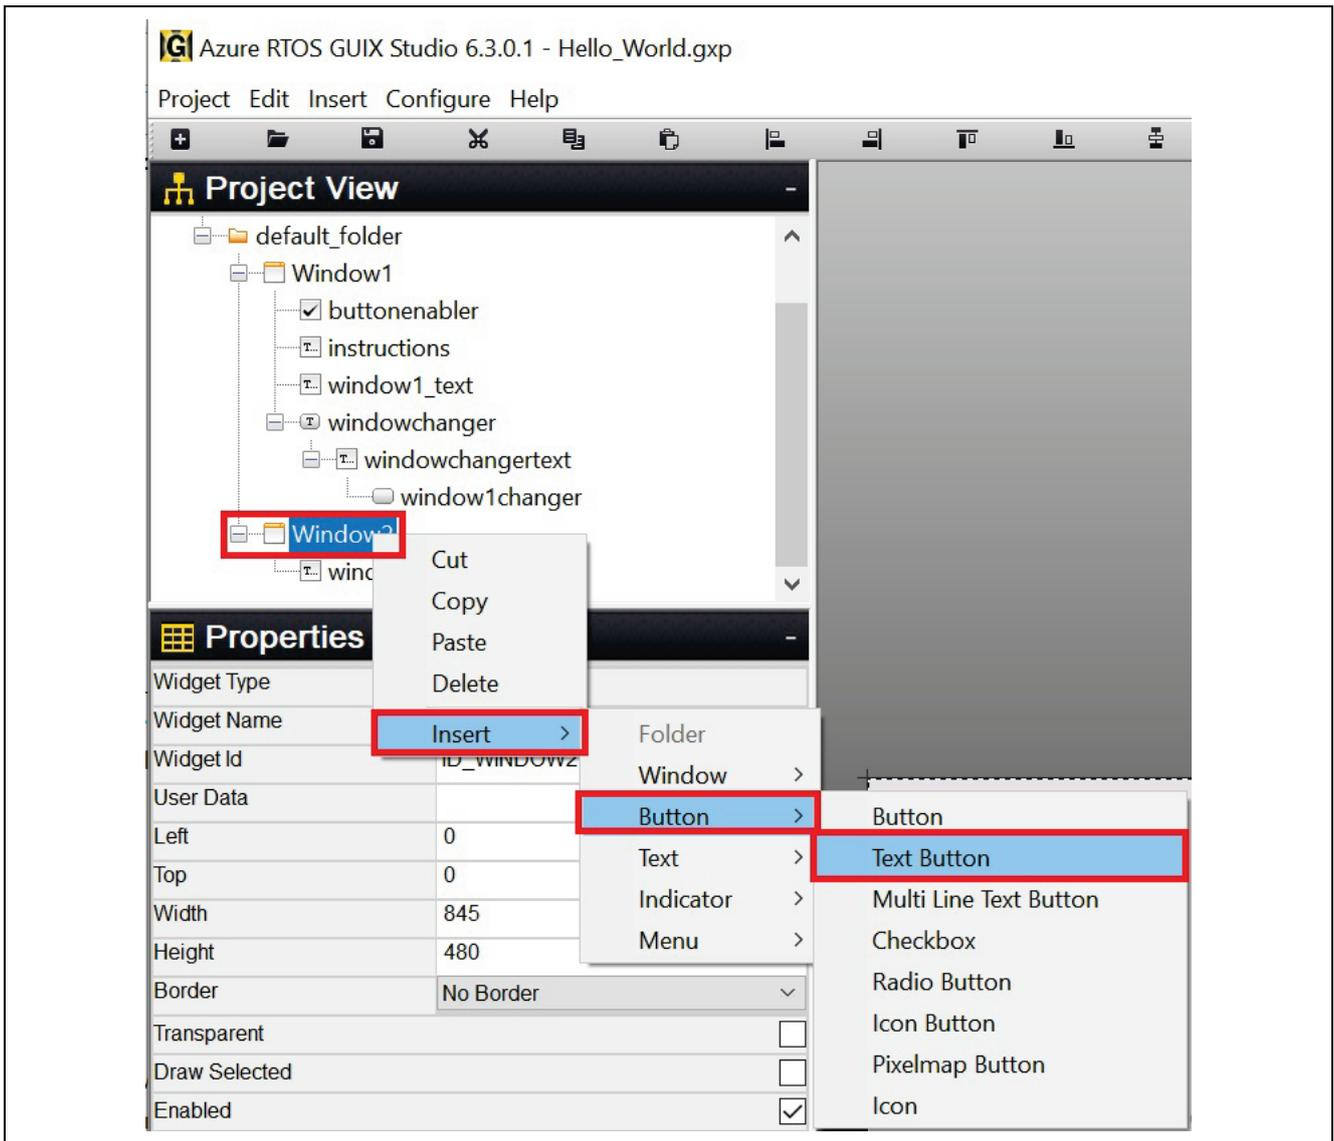

Figure 67. Insert text_button for Window2
27. Insert **text_button** for window2. Right click on Window2 then click **Insert > Button > Text Button** following **Figure 67**.